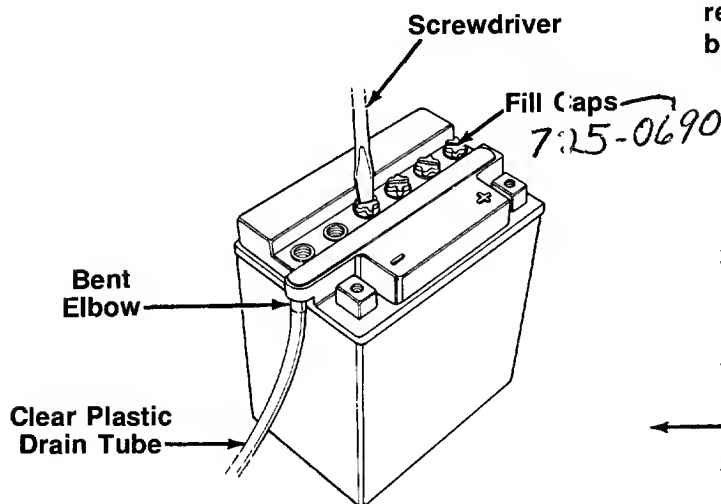

FIGURE 12.
3. Remove the six fill caps from the top of the battery with a screwdriver. Be careful not to damage the fill caps. See figure 12.